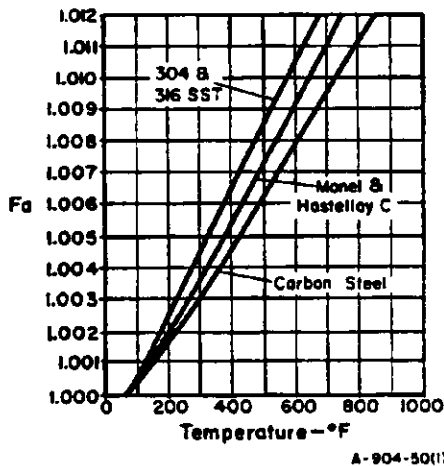

Figure 3-1. Expansion Factor (F_a)
- F_a = expansion factor, Figure 3-1